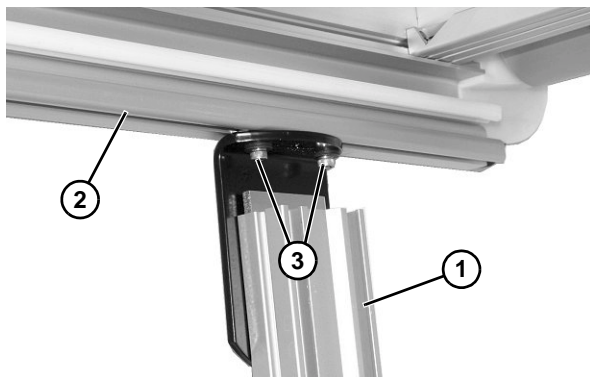

Figure 13
2. Attach stands (**Figure 13, item 1**) to the bottom of the conveyor frame (**Figure 13, item 2**). Tighten socket head screws (**Figure 13, item 3**), on each side, to secure in place.